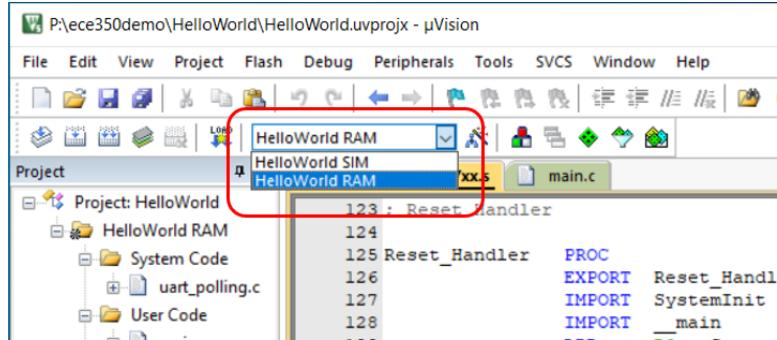

Figure 7.27: Keil IDE: Select HelloWorld RAM Target. Configure in-memory code execution as shown in Figure 7.28.
3. Switch your target to the newly created RAM target (See Figure 7.27).